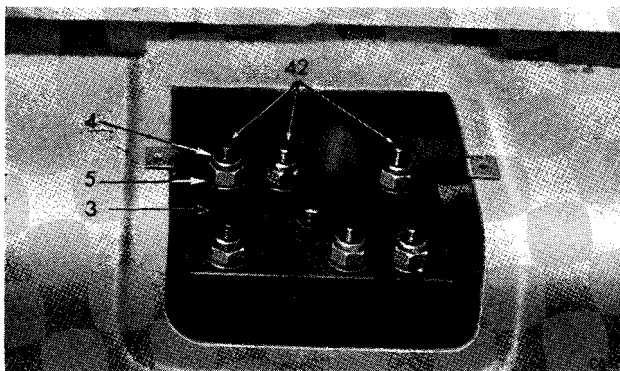

Fig. 47. Spring clamp plate attachments
7. Remove the six nyloc nuts (4), plain washers (5), detach the spring clamp plate (3) and unscrew the three rear studs (42) from the axle casing (Fig. 47).